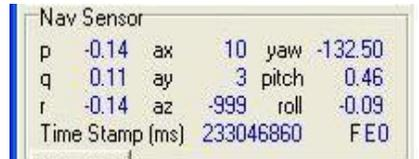

Figure 4. Nav Sensor Section
4.4 Nav Sensor - The Nav Sensor section displays the individual data outputs, as determined by the Kalman filter, for each of the rate (p, q, r) and accelerometer (ax, ay, az) sensors as well as the yaw, pitch, and roll sensed by the MIDG Series INS/GPS (Figure 4). The message ID for the Nav Sensor message is "10." Each piece of information is detailed below.